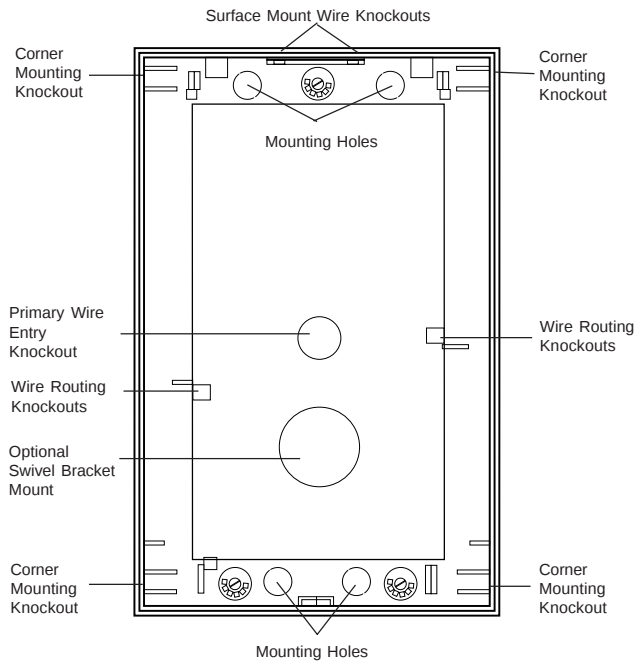

Figure 3. Mounting and Wiring
3. Remove the appropriate wiring knockouts and pull the cable through the entries. See Figure 3.
4. Level the backplate to the wall leaving a 1/2 inch clearance space above the unit. For flat-wall mounting, use the four mounting holes. For corner mounting applications, remove the mounting knockouts located in each corner. See Figure 3.